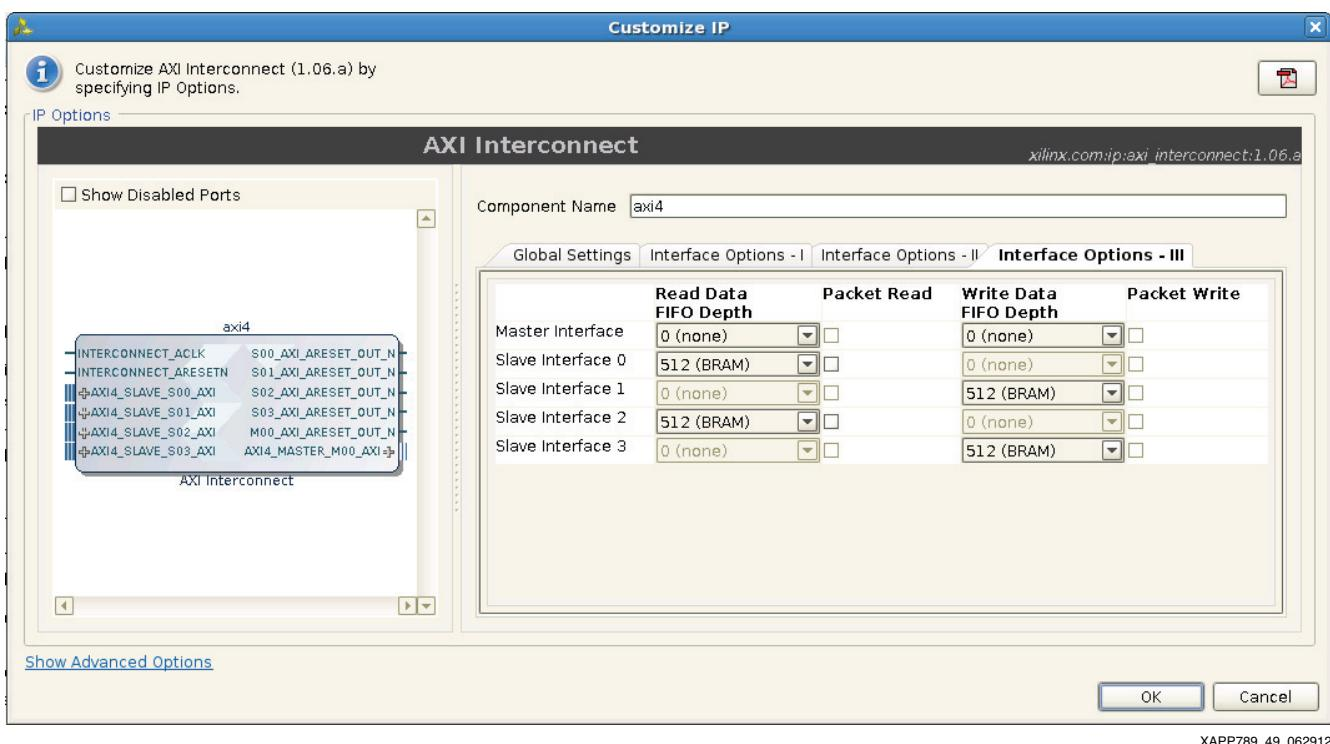

Figure 49: AXI Interconnect Packet Read/Write Settings
38. As described in the “AXI Optimization” chapter of the *AXI Reference Guide* [Ref 4], block RAM FIFOs on the slave interfaces should be enabled to improve throughput. Click the **Interface Options – III** tab of the AXI Interconnect IP Configuration and make the settings listed below, then click **OK** to generate the core (Figure 49). After clicking **OK**, the IP customization GUI generates the HDL and constraint files for the IP. After several seconds for the generation process to complete, control is returned to the Vivado GUI: